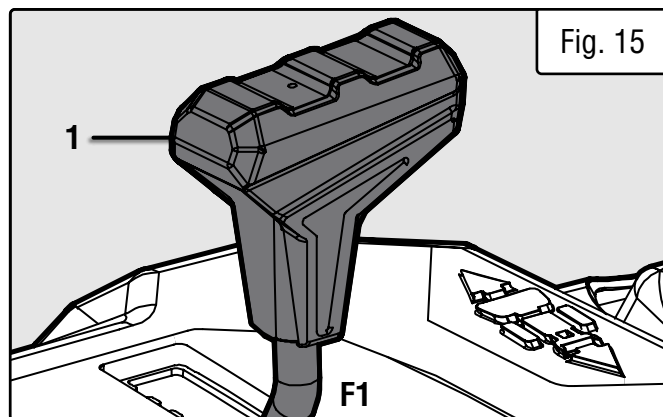
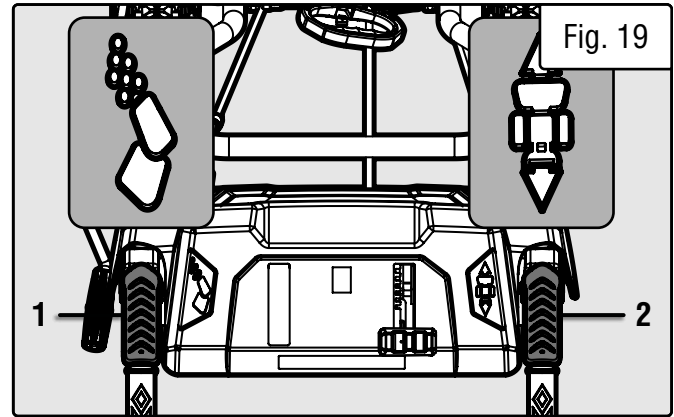

Fig. 15
Fig. 19
1. Release the drive lever (Fig. 19 - 2) on the right handle. Put the speed control lever (Fig. 15 - 1) in the low, forward position (F1).
1. Squeeze the auger lever (Fig. 19 - 1) to spin the auger and throw snow. To adjust the position of the chute and chute deflector plate, see the “**Step 3 - Adjust The Chute & Deflector Plate**” section.
3. Squeeze the drive lever (Fig. 19 - 2) to allow the wheels to spin and move the snow blower.